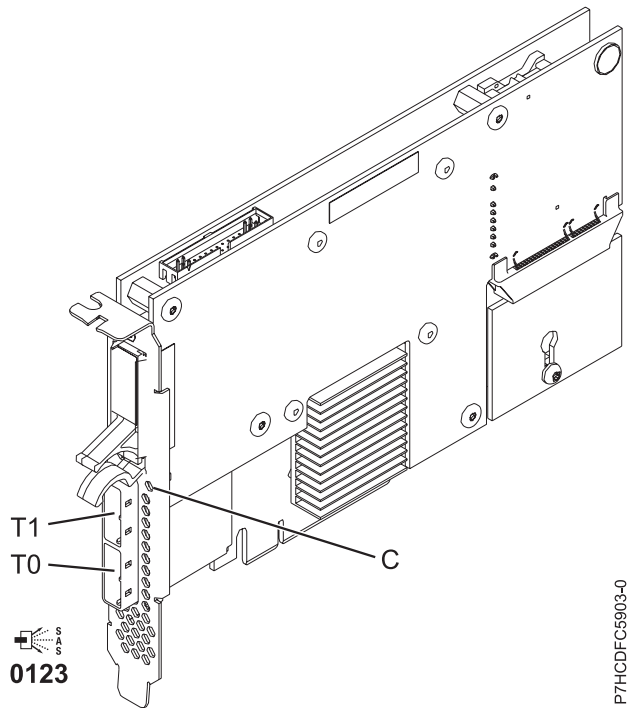

Figure 46. PCIe Dual - x4 3 Gb SAS RAID Adapter
The 5903 or 5805 contains a LED ((C) in Figure 46 on page 165) that flashes if the cache data is present. The cache-data present LED flashes when there is possible data in the cache on the adapter. If the cache data present LED is flashing, do not replace the cache battery pack. If replaced when the LED is flashing, the cache data is lost. See Figure 46 on page 165 to locate the cache-data present LED on this adapter.